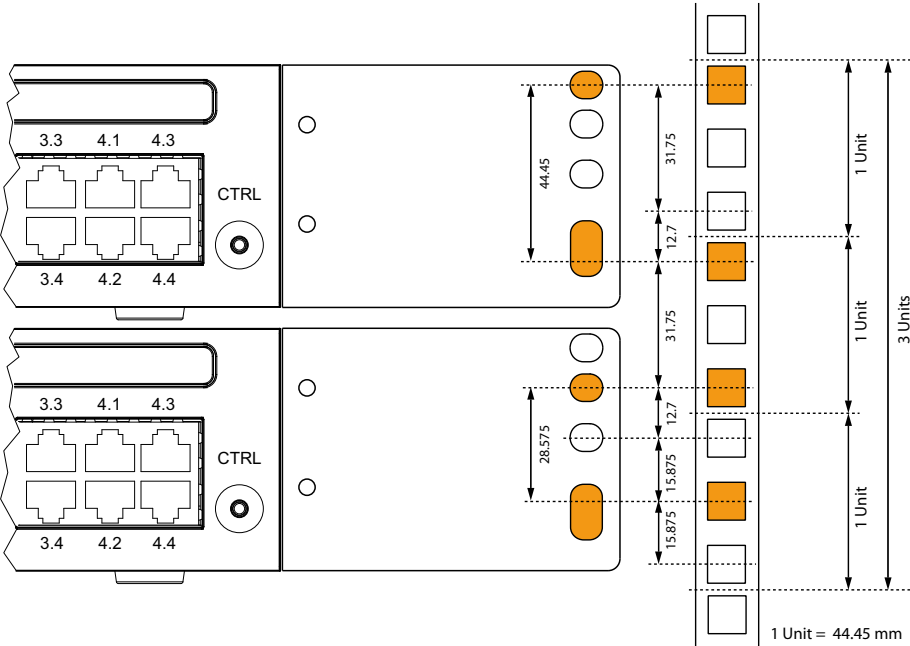

Fig. 16 Placing two communication servers above each other inside a 19" rack
- the mounting plates are used for this purpose (see Fig. 16).
8. Secure the cage nuts in the appropriate positions in the rack's fastening rails (see Fig. 16).